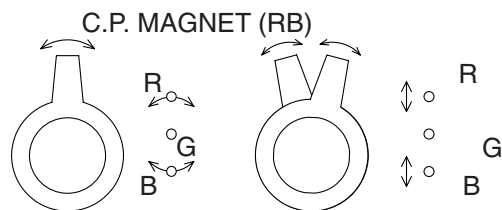

Fig. 10
2. Loosen the Ring Lock and align red with blue dots or crosshatch at the center of the screen by rotating (RB) C.P. Magnets. (See Fig. 10.)